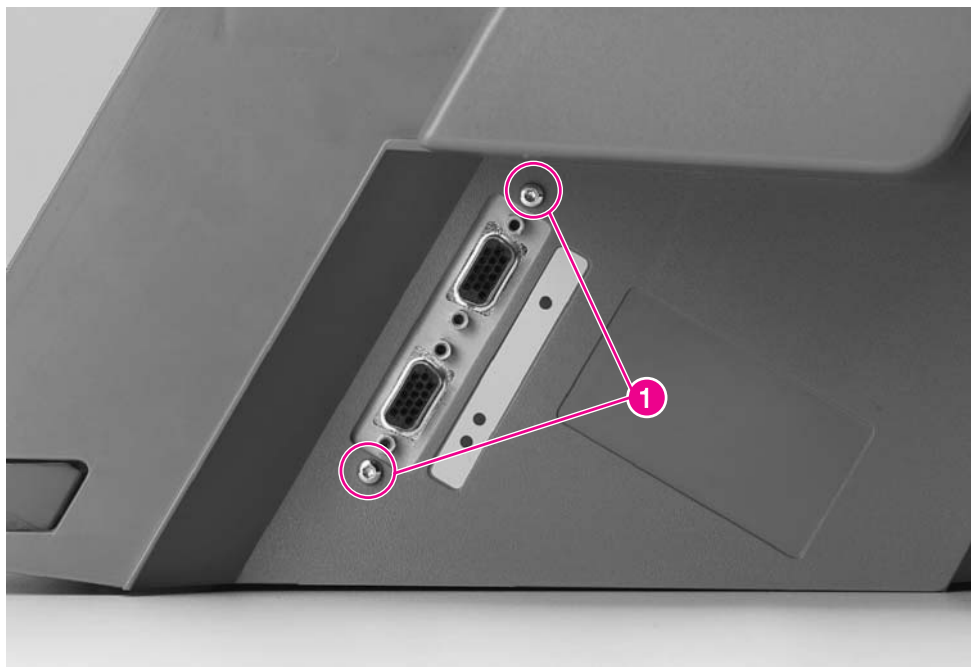

Figure 6-182 Stapler Controller PCA (1 of 3)
- 3** Remove 2 screws located on the right side of the Stapler (see figure 6-182, callout 1).